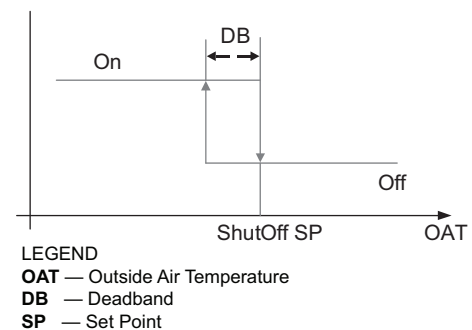

Fig. 51 — Hysteresis Settings
Hysteresis setting (DB) defaults to 2°F (–17°C). See Fig. 51.